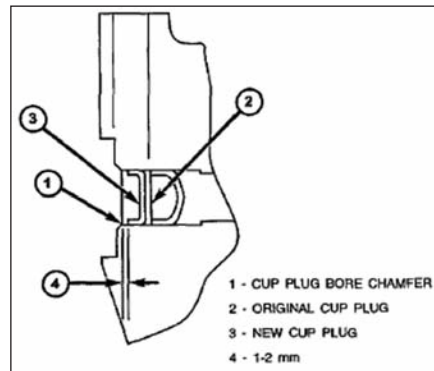

Figure 5 Drive the new cup plug on 2.7L engine into the bore until the flanged edge of the plug is just inside (1-2 mm) the chamfered edge of the bore.
4. Using an appropriate installation tool drive the new cup plug into the bore until the flanged edge of the plug is just inside (1-2 mm) the chamfered edge of the bore (Figure 5).